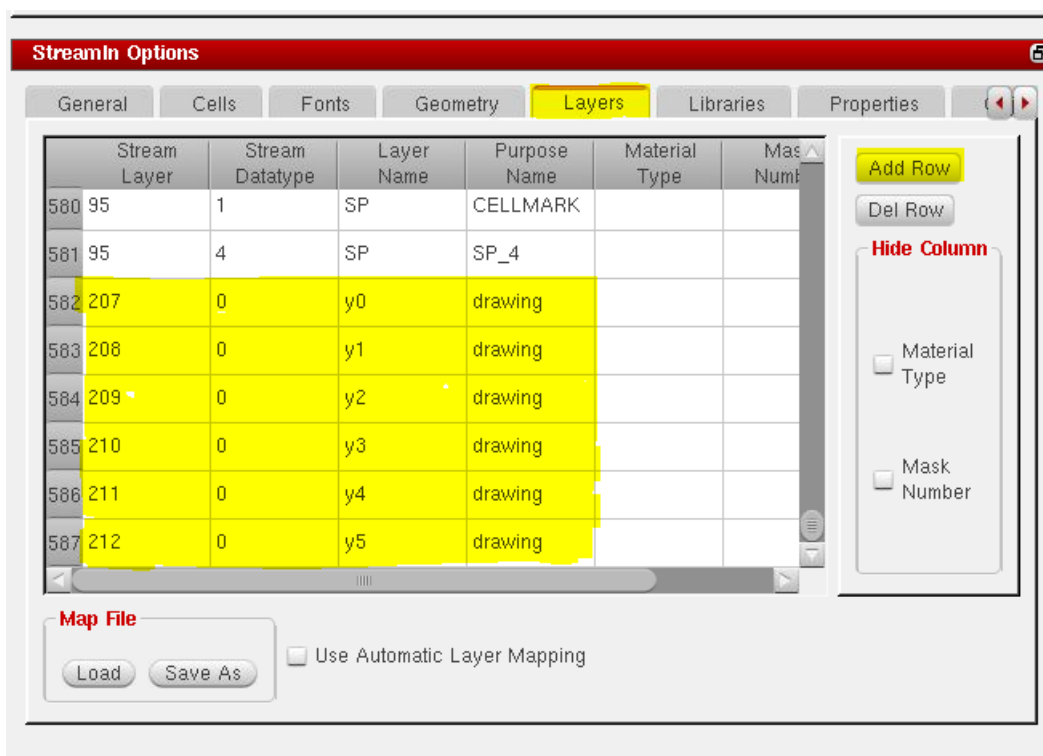

Figure 1: Adding layers to the layer table.
- When you import this GDS, add layers y0-y5 to the layer table as shown in Figure 1.